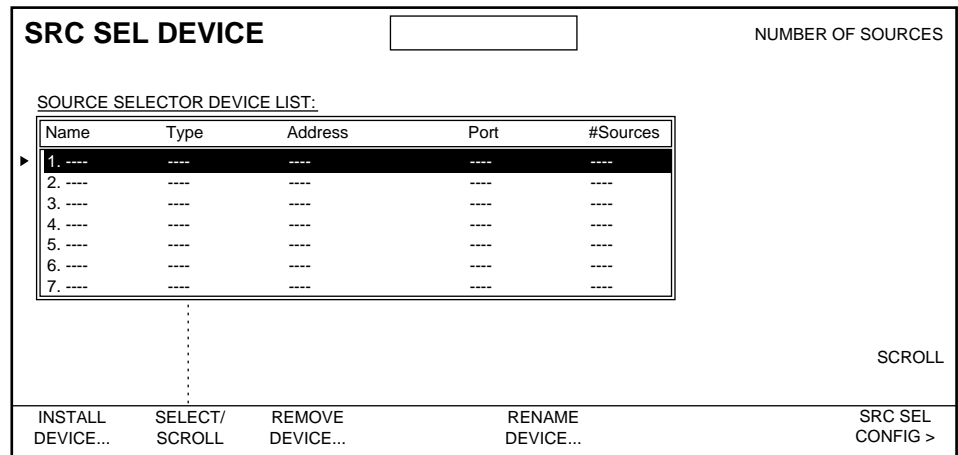

Figure 3-15. Initial Source Selector Device Menu
1. From the System Configuration menu, press SRC SEL DEV MGR... to go to the Source Selector Device menu. This menu shows a SOURCE SELECTOR DEVICE LIST. Selector devices do not automatically appear in this list (Figure 3-15).